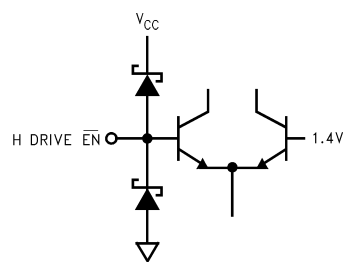

FIGURE 10.
**Pin 14—H DRIVE  $\overline{\text{EN}}$ :** A low logic level input enables H DRIVE OUT (pin 19). See *Figure 10* for the input schematic.